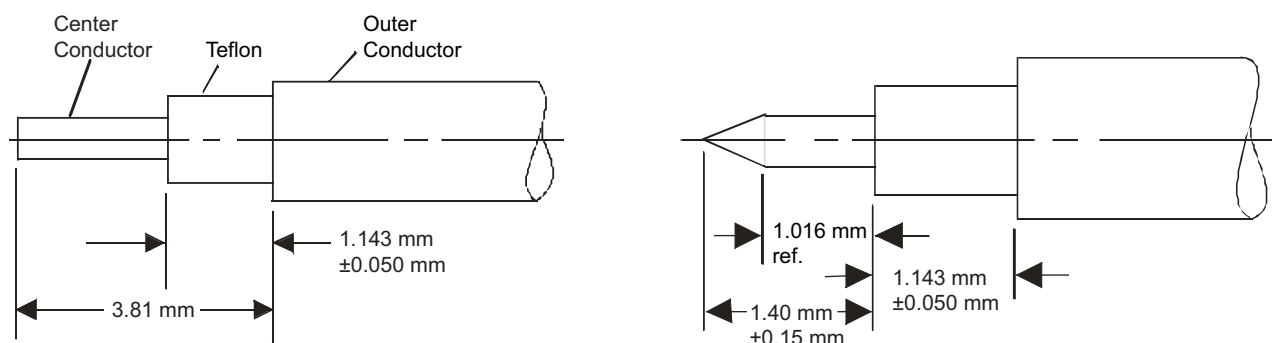

Figure 2-3. V101M-R Cable Preparation and Center Pin Assembly
7. Using an X-ACTO-type knife or razor blade, cut the Teflon dielectric flush with the fixture. Do not score the center conductor. After cutting, the Teflon dielectric should protrude 1.14 mm (0.04 in.) from the outer conductor as shown in Figure 2-3, left.
11. While rotating the cable in the hole of the fixture, carefully file the center conductor to a smoothly tapered tip. Refer to Figure 2-3, right.